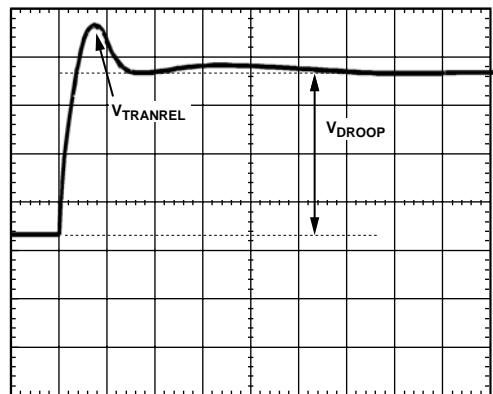

Figure 19. Transient Setting Waveform
20. For load release (see Figure 19), if $V_{TRANREL}$ is larger than the allowed overshoot, there is not enough output capacitance. Either more capacitance is needed, or the inductor values need to be made smaller. (When changing inductors, start the design again using a spreadsheet and this tuning procedure.)